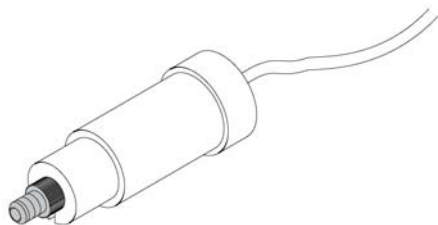

Figure 9 Mounting Tool
- 5 Connect the solvent tubes from the bottle head assemblies to the inlet connectors A to D (typically the left connection of the channel) of the vacuum degasser. Use the mounting tool shown in Figure 9 on page 28 to fix the tube screw. Fix the tubes in the clips of the vacuum degasser.